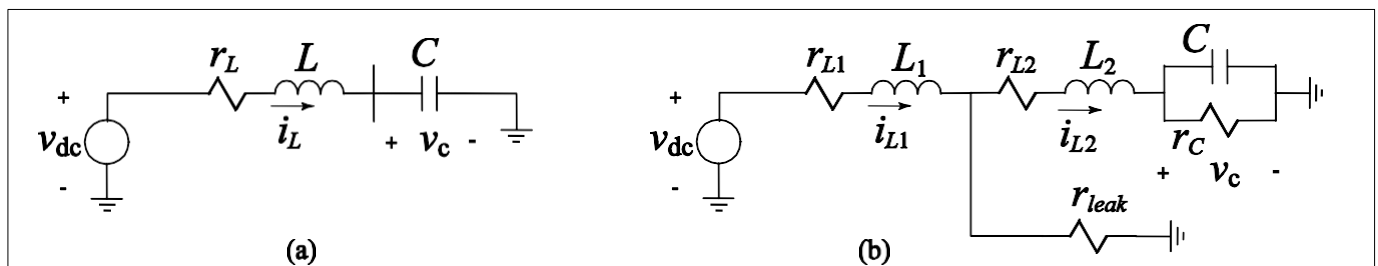

Fig. 1 A harmonic filter: (a) Simple model; (b) Model with more details.
SECTION A (Based on Fig. 1(a))
- 1) A shunt harmonic filter (series *RLC*) is shown in Fig. 1(a) above. It is designed for a three-phase 13.8kV 60Hz system to shunt the 7th harmonic current. Find the reactive power, damped and undamped resonance frequency, and quality factor of the filter. The circuit parameters are: $r_L = 1 \, \Omega$, $L = 19 \, \text{mH}$, and $C = 8.2 \, \mu\text{F}$.
- 2) Calculate the transient response of the circuit shown in Fig. 1(a) to a step voltage change if $v_{dc}(t) = s(t) = 11.3 \, \text{kV}$ for $t \geq 0$. Comment on the eigenvalues and response type.
- 3) Develop a Simulink model of the circuit shown in Fig. 1(a) using conventional Simulink blocks (i.e., summers, gains, integrals, etc.). Compute the transient response (solutions) on time interval $[0, 0.1] \, \text{s}$ using the ode3 solver with 0.1 ms time-step size.
SECTION B (Based on Fig. 1(b))
- 9) In Fig. 1(a) the equivalent series resistance and inductance of the capacitor (r_{L2} and L_2) were added to the inductance parameters r_{L1} and L_1 (i.e. $r_L = r_{L1} + r_{L2}$ and $L = L_1 + L_2$). In Fig. 1(b), they are separated and also the capacitor leakage resistance (r_C) is considered. In addition, the discharge resistance (r_{leak}) is shown in Fig. 1(b). This resistance is used to discharge the filter capacitor when it is off-line for safety purposes which was ignored in the simple model shown in Fig. 1(a). Implement the model of Fig. 1(b) in Simulink using basic blocks considering $r_{L2} = 323 \text{ m}\Omega$, $L_2 = 1 \text{ mH}$, $r_C = 1 \text{ M}\Omega$, and $r_{leak} = 30 \text{ k}\Omega$. If the filter is disconnected, how long does it take for the capacitor to fully discharge?
- 10) Calculate the eigenvalues of the new system by hand and using MATLAB functions and repeat part 5 for the new model of Fig. 1(b). Is this system numerically stiff? Using any one of the fixed-time-step solvers of your choice simulate the model and plot the solution for i_L and v_C . Experimentally establish the largest time step $h_{\max}$ that produces a stable and convergent solution that you can trust.